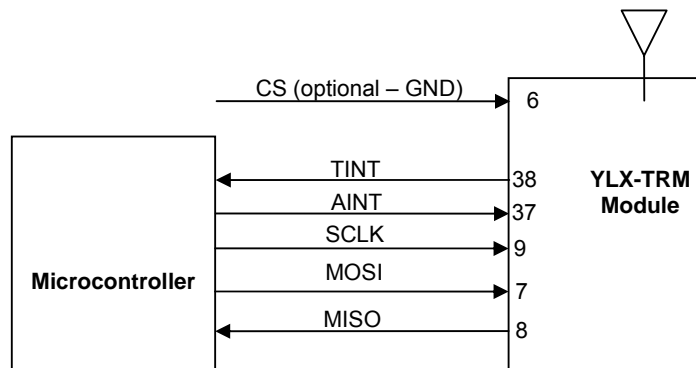

Figure 5.2: Interface through SPI
- Through its synchronous serial port, the module can communicate with any SPI Master. The YLX-TRM8053-500-05'SPI is configured as slave. (Figure 5.2)
The serial SPI communication consists of two SPI connected each other (Master and Slave) as described in figure 5.2. The Y-Lynx radio modems have slave SPI interface. The host needs to be configured with a Master SPI to have successful communication.